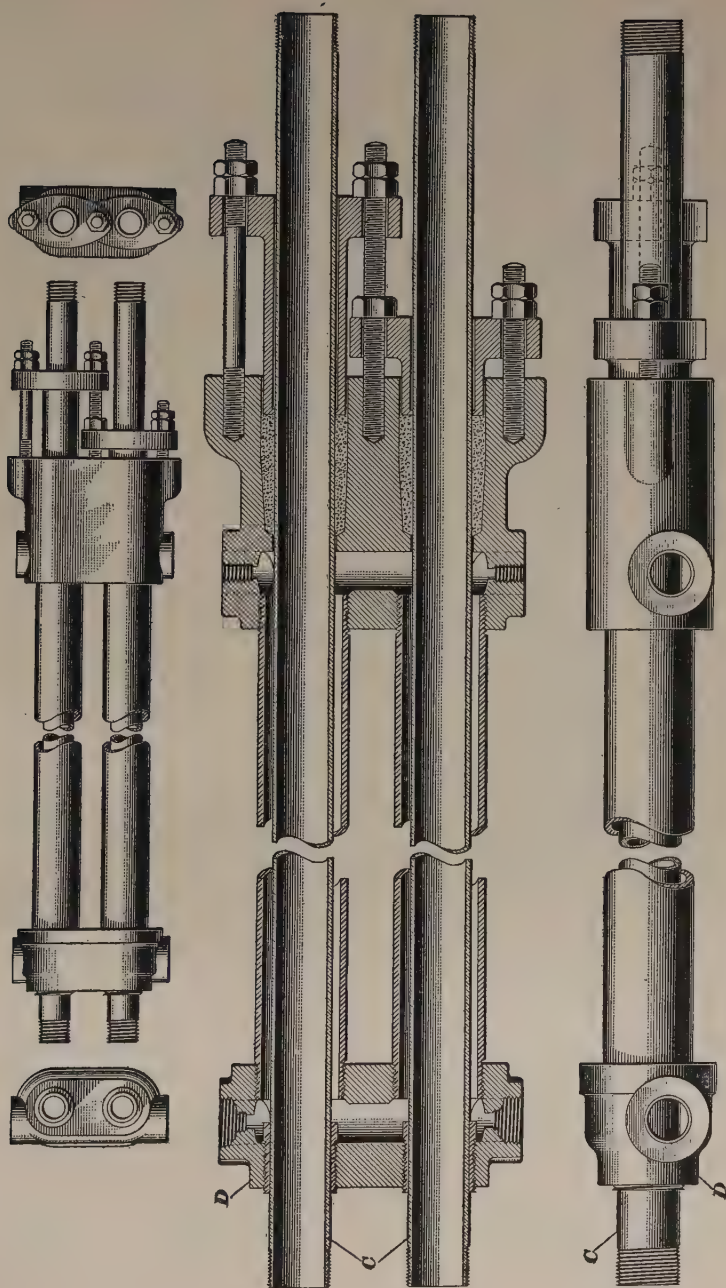

FIG. 10
12. The **heating jackets** are shown in Fig. 10. The water of circulation flows through the inner pipes C , which are of copper $1\frac{1}{4}$ inches inside diameter. The live steam enters from the train pipe at the end fittings D into the annular space between the copper pipe and the 2-inch iron pipe surrounding the pipe containing the water. Thus the water passing through the copper pipe takes up the heat from the live steam. At the end D , the copper pipe is screwed into the fitting and the iron pipe or jacket is also screwed into the same fitting. On the other end of the jacket, provision is made for the difference in the expansion of the copper and iron pipes. The 2-inch iron pipe is screwed into the fitting in the usual manner, but the copper pipe passes through a packed gland that allows the copper pipes to expand and contract without breaking any joints. The trap is attached to the opposite end of the jacket from the steam inlet. These jackets are single for a single circulation and double